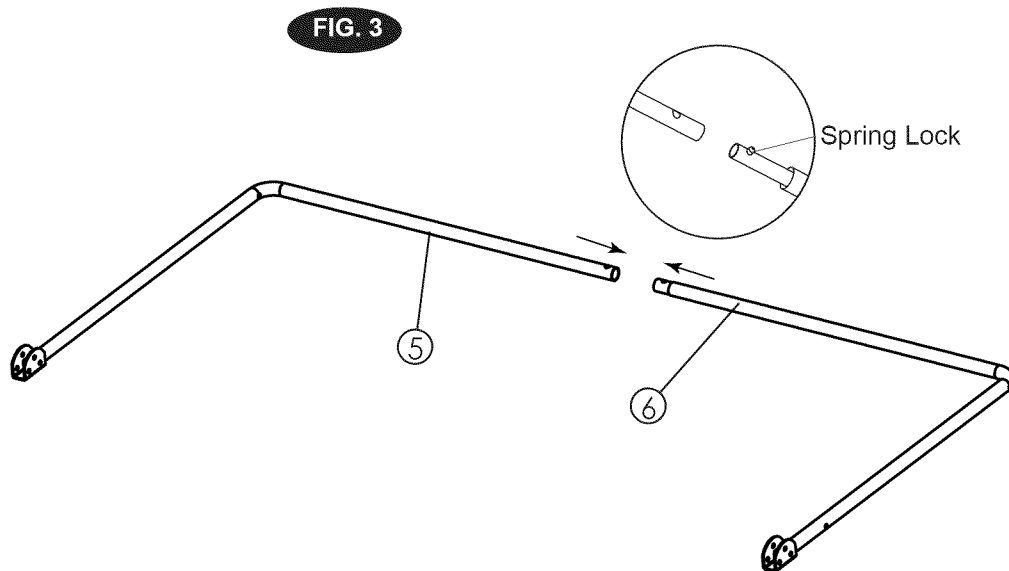

FIG. 4
6. Attach Angle Support tube(#7) to Vertical Support Mounting Tube(#2) using Bolts(#24), Washers(#22) and Nuts(#27) as shown in FIG4, repeat this step for other side, Note: make sure the spring lock is face down.
7. Attach Horizontal Frame Brace Tube(#5) to Left and Right Support Tube(#3) using Bolts(#26), Washers(#22) and Nuts(#27), and then attached Horizontal Frame Brace Tube(#5) to Angle Bottom Frame Support Tube(#8) using Bolts(#26), Washers(#22) and Nuts(#27) as shown in FIG4.